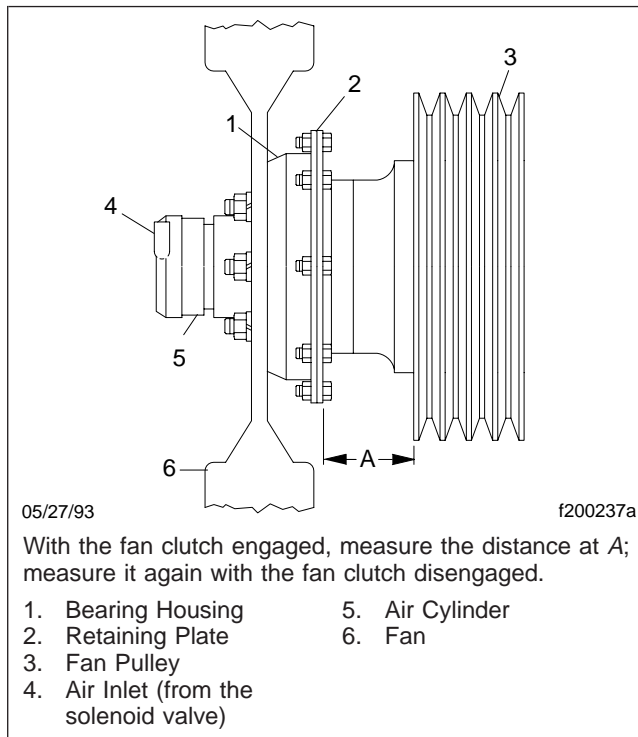

Fig. 7, Kysor/Dynair and Kysor K22RA Fan Clutch Lining Wear Checking
2. Measure the distance from the back surface of the fan clutch retaining plate to the forwardmost edge of the fan belt pulley. See Fig. 7, Ref. A.